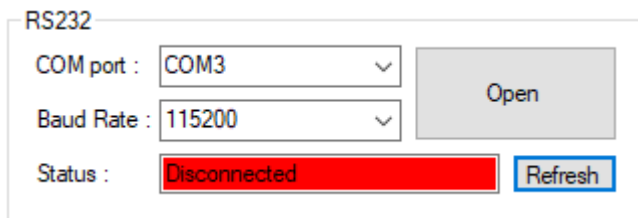

Figure 4: RS232 Setup – Disconnected
- When the AT GUI program runs, the connection status is red (not connected). If the program does not detect any COM port, click the **Refresh** button to refresh the COM Port. See Figure 4.